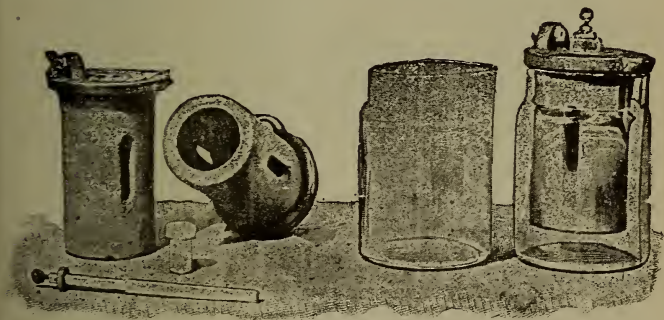

Fig. 106. Carbon Cylinder Cell.
*The Carbon Cylinder Cell.* These are sold under the name of Law, Samson, Hercules, etc. It is an open circuit, polarization delayed type. They give a pressure of 1.5 volts and have a resistance of 1 to 2 ohms. Two of them are shown in Fig. 106.